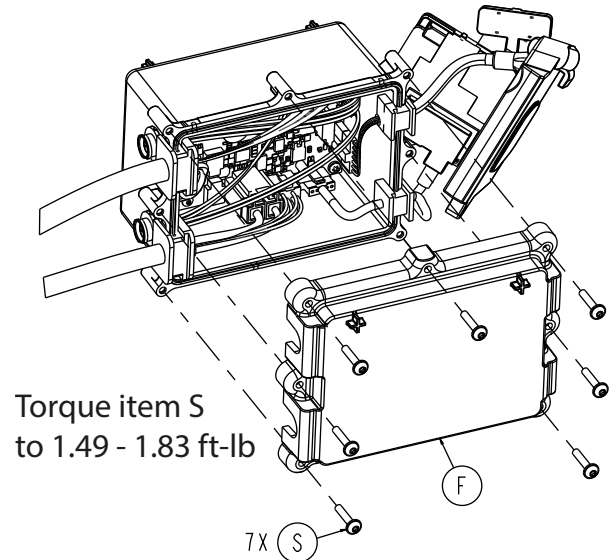

Figure 54 – Remove the HBC top cover screws
10. Using a T20 Torx driver, remove the seven round washer head tapping screws (S) that secure the top cover (F) to the HBC enclosure assembly (Figure 54). Remove and save the top cover. Save the screws.